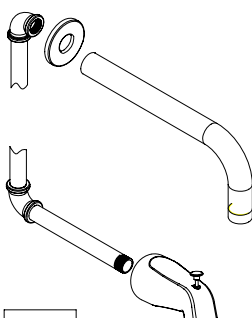

Fig .5
A. Install tub spout and shower assembly (see Fig. 5 ).